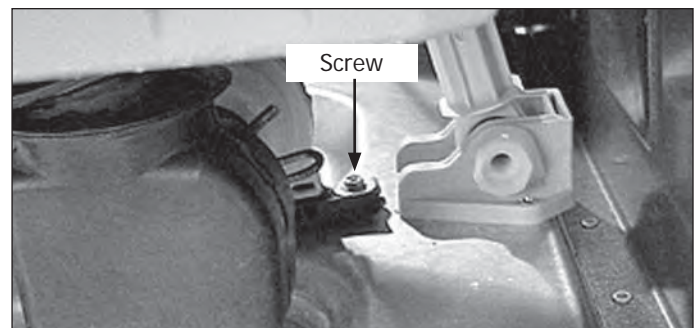

Figure 4-73.
4. Remove the (2) screws, one on each side, holding the pump housing to the washer base. (See Figure 4-73)